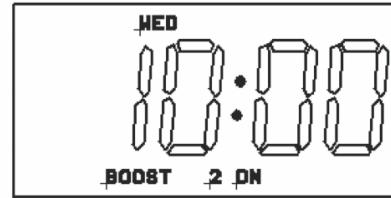

Figure B-20: Two hour boost ON
2. Pressing '-' (Boost) twice in normal operating mode turns on for 2 hour period. Refer to Figure B-20.